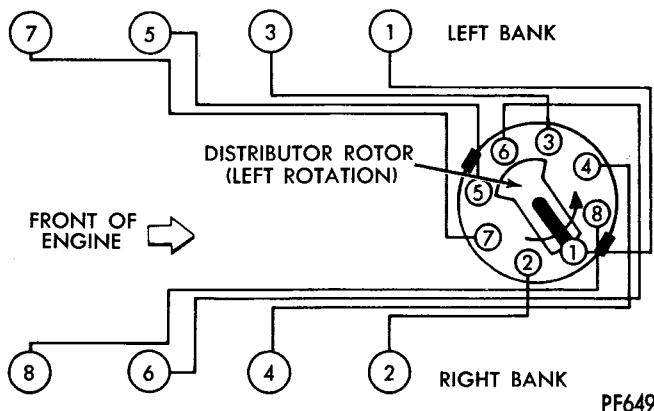

Fig. 26—Distributor with Rotor Positioned Under No. 1 Tower of Cap
- (1) Hold distributor over mounting pad with the vacuum chamber pointing toward center of engine.
- (2) Turn rotor until it points forward and to the approximate location of the no. 1 tower terminal in the distributor cap (Fig. 26).
- (3) Place distributor "O" Ring in position.
- (4) Lower distributor and engage shaft in slot of distributor drive shaft gear.
- (5) Install hold down clamp.